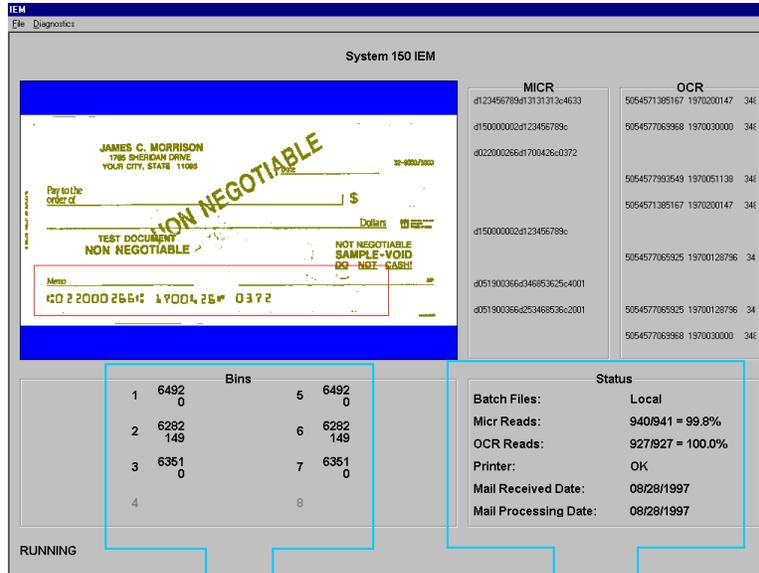

Figure 2.8
- ▮ **Run:** Select to view Run Screen. See Figure 2.8